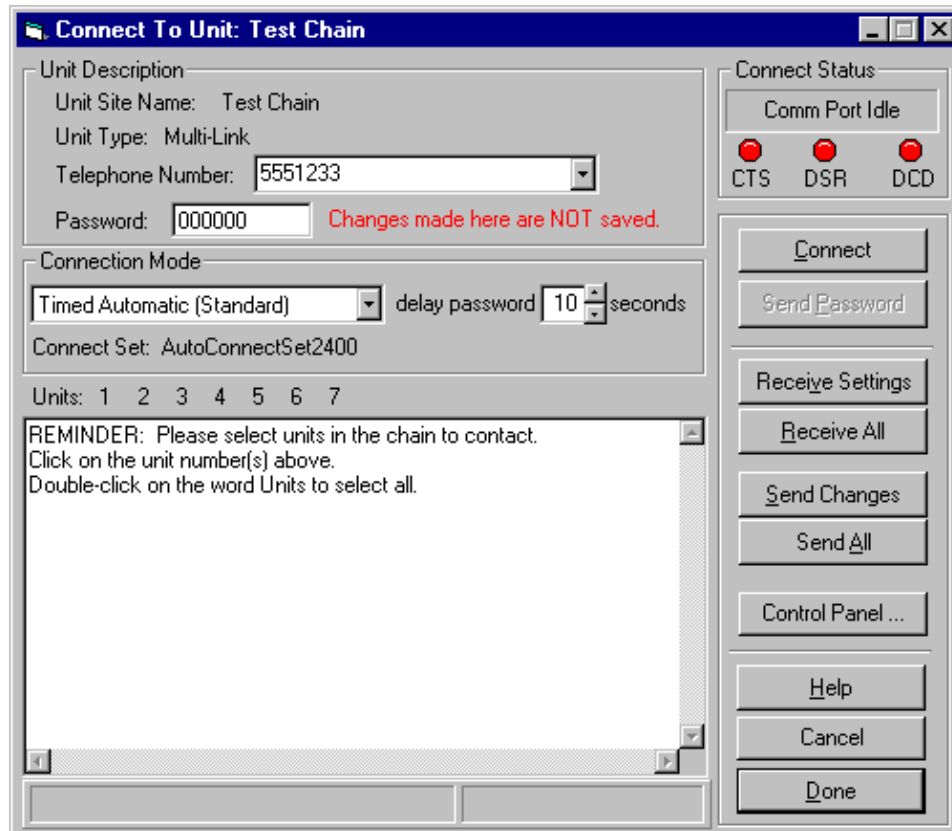

Figure 20: Connect to Unit Window
- 4 Click the Connect button. The Connect To Unit window will be displayed (see Figure 20).